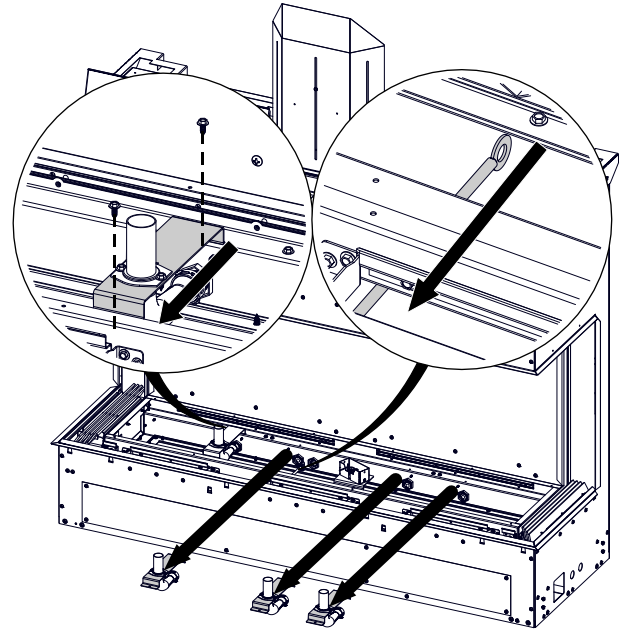

Fig. 1
4. Remove 2 screws that secure each venturi bracket and pull them forward off the orifices (**Fig. 1**).
5. Push the adjustable air shutter rod forward (**Fig. 1**).